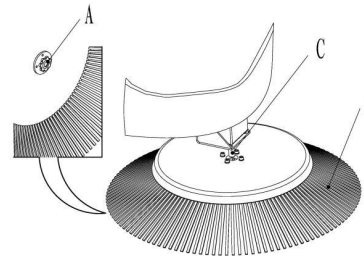

Figure 13
3. Reach into the side broom, unscrew the flower nut (A, Figure 13), press down along the motor shaft (C), and remove the broom (B).
4. Align the motor shaft (C, Figure 13) with a new side brush and tighten the flower nut (A, Figure 13).